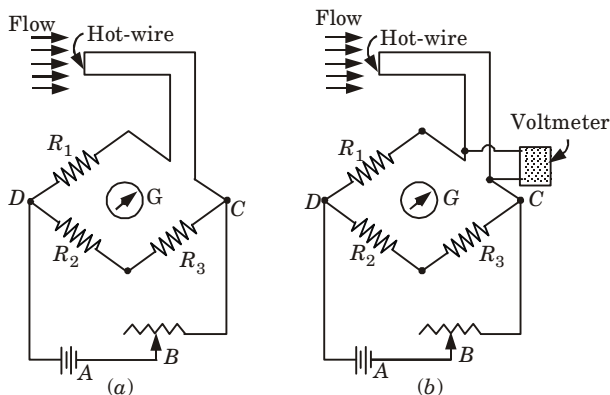

Fig. 3.9.1. (a) Constant-current hot-wire anemometer, (b) Constant-temperature hot-wire anemometer.
4. In the arrangement shown in Fig. 3.9.1(a), constant current is passed through wire by keeping the voltage across the bridge.
7. Fig. 3.9.1(b) illustrates another arrangement for hot-wire anemometer which is termed as constant temperature (or constant-resistance) hot-wire anemometer.